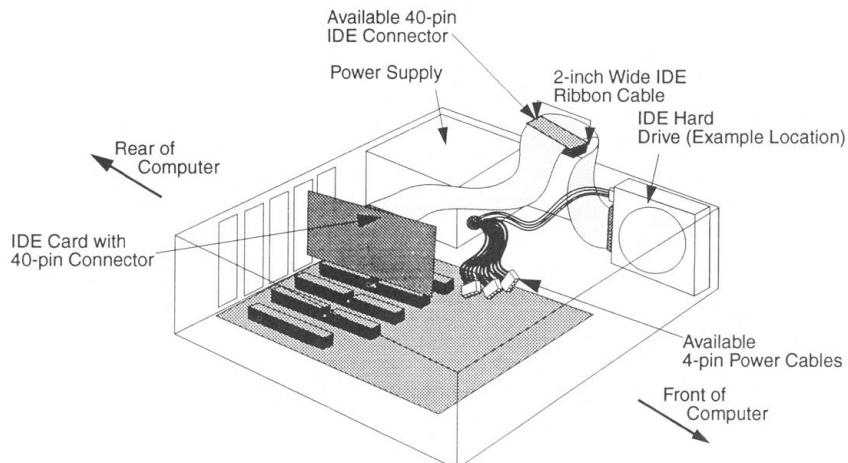
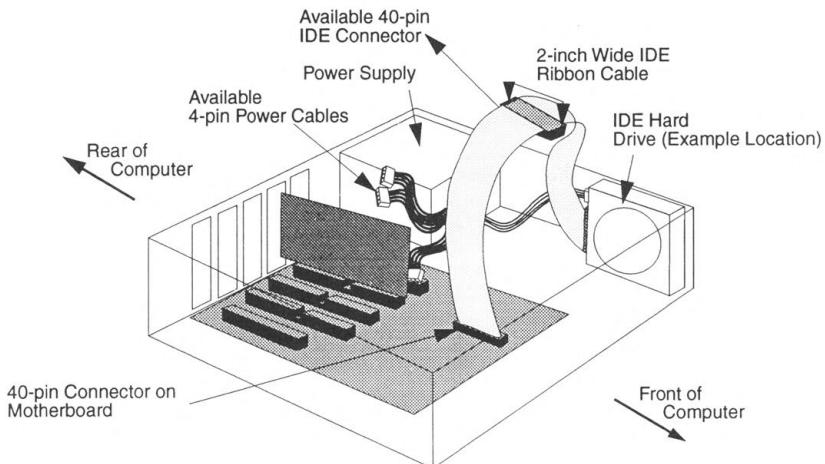

Figure 7. 40 -pin IDE ribbon Cable Attached to an IDE Controller Card
Figure 8. 40 -pin IDE Ribbon Cable Attached to the Computer's Motherboard
Internal configurations vary from one computer to another, so your hard drive may not be exactly where the hard drive is shown in Figures 7 and 8.
- A ribbon cable that attaches to either the motherboard or an IDE (or EIDE) controller in an expansion slot (See Figure 7 and Figure 8).
NOTE: Figure 7 and Figure 8 show typical internal desktop PC configurations. Your hard drive may be located in one of many places inside your PC.